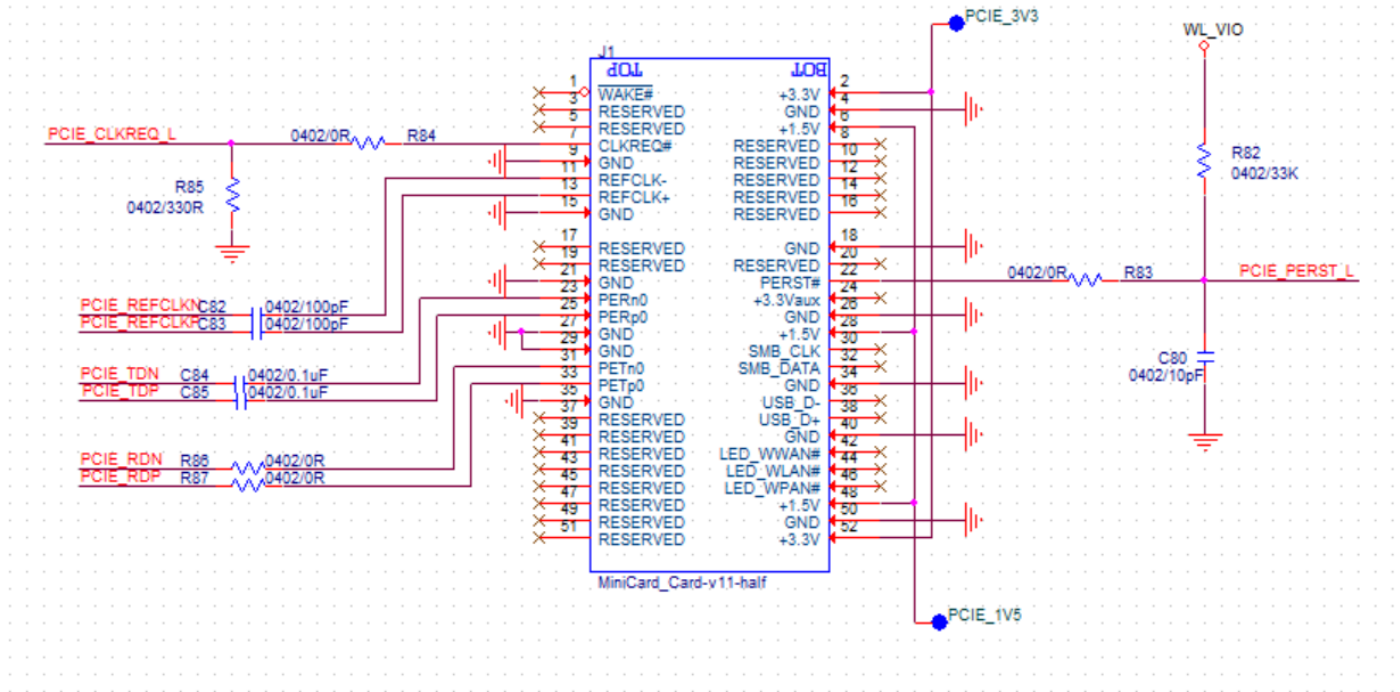

Figure2. WiFi verification connection interface to Host PCIe
- ❖ Refer to Figure2 PCIe pin definition connects the J4 interface of AP6275P/PR3 evaluation board to Host PCIe control interface.